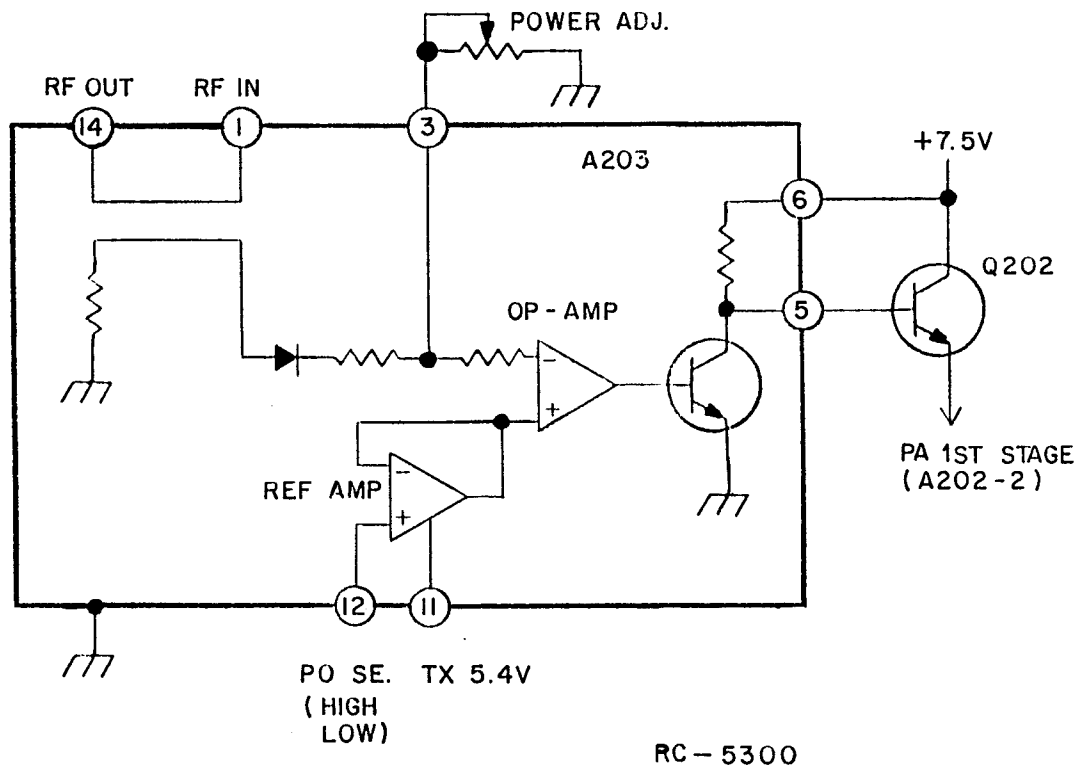

Figure 5 - Power Control Module (PC)
The RF power output of the radio is regulated by sensing variations in the RF power output of the transmit PA module to control the supply voltage to the first stage of the PA module (refer to Figure 5). Supply voltage cannot be applied to the first stage of the PA module until the transmit circuit is keyed, applying 5.4 Volts to Pin 11 of Power Control (PC) hybrid IC A203. When the transmit circuit is keyed, the output of a reference amplifier, determined by the High-Low power control, is applied to the positive (+) input of a comparator circuit.